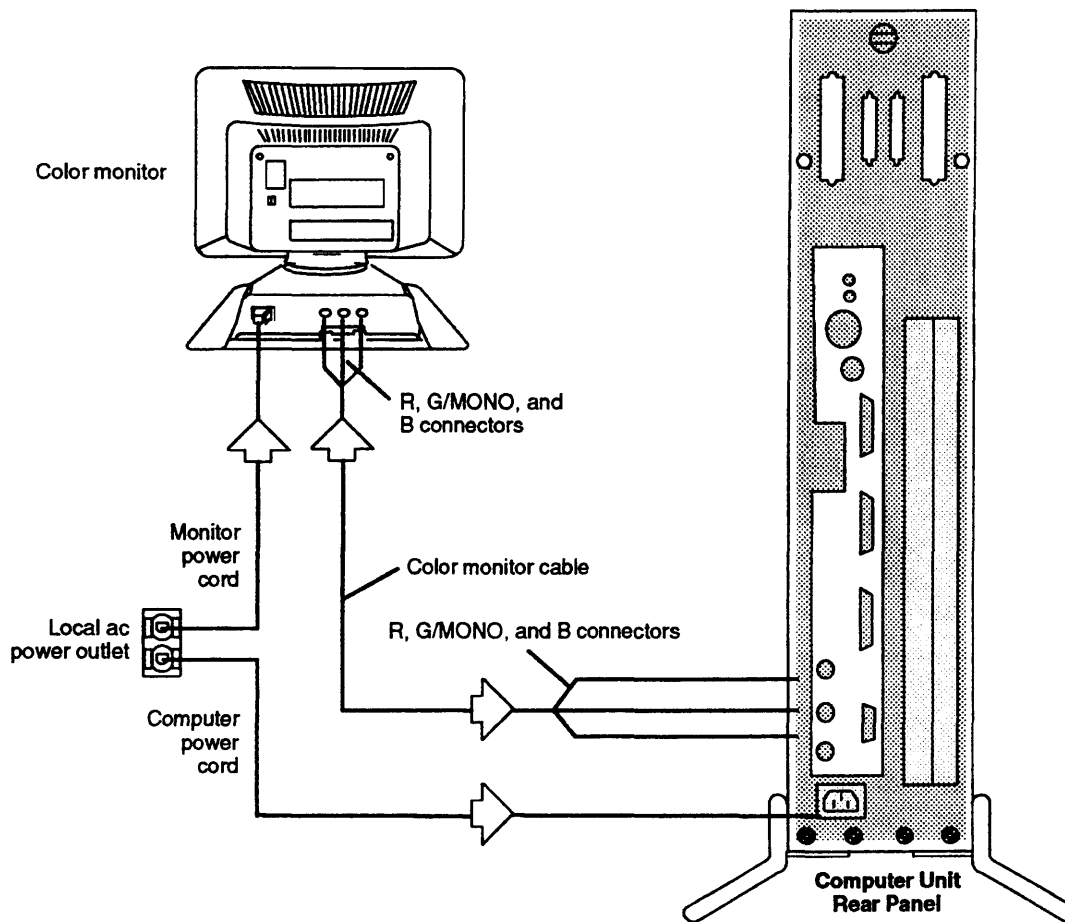

Figure 2-5 Plugging the Cables and Power Cord into the Monitor and Computer Unit
3. Plug one end of the monitor BNC cable into the connectors on the back of the monitor. The cable is coded with red, green, and blue color strips near the connector ends. Connect the red cable to the R monitor connector, the green cable to the G/MONO connector, and the blue cable to the B connector, as shown in Figure 2-5. Turn the ends of the cables clockwise to lock them in place.
4. Plug the other end of the monitor cable into the connectors on the back of the computer unit. The color monitor cable has color-coded ends which plug into the appropriate R, G/MONO, and B connectors on the back of the computer unit, as shown in Figure 2-5. Turn the ends of the cables clockwise to lock them in place.